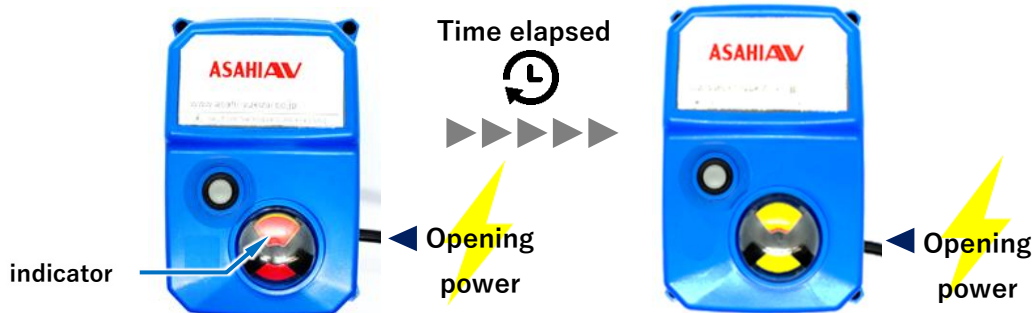

Figure 7.2-2 Opening control
- ① Confirm that the actuator indicator is "solid red".
- ② Supply opening power (power between blue and black of the pre-cable) from the distribution panel to the actuator.
- ③ After time has elapsed, confirm that the actuator indicator automatically stops at "solid yellow" (**Figure 7.2-2**).